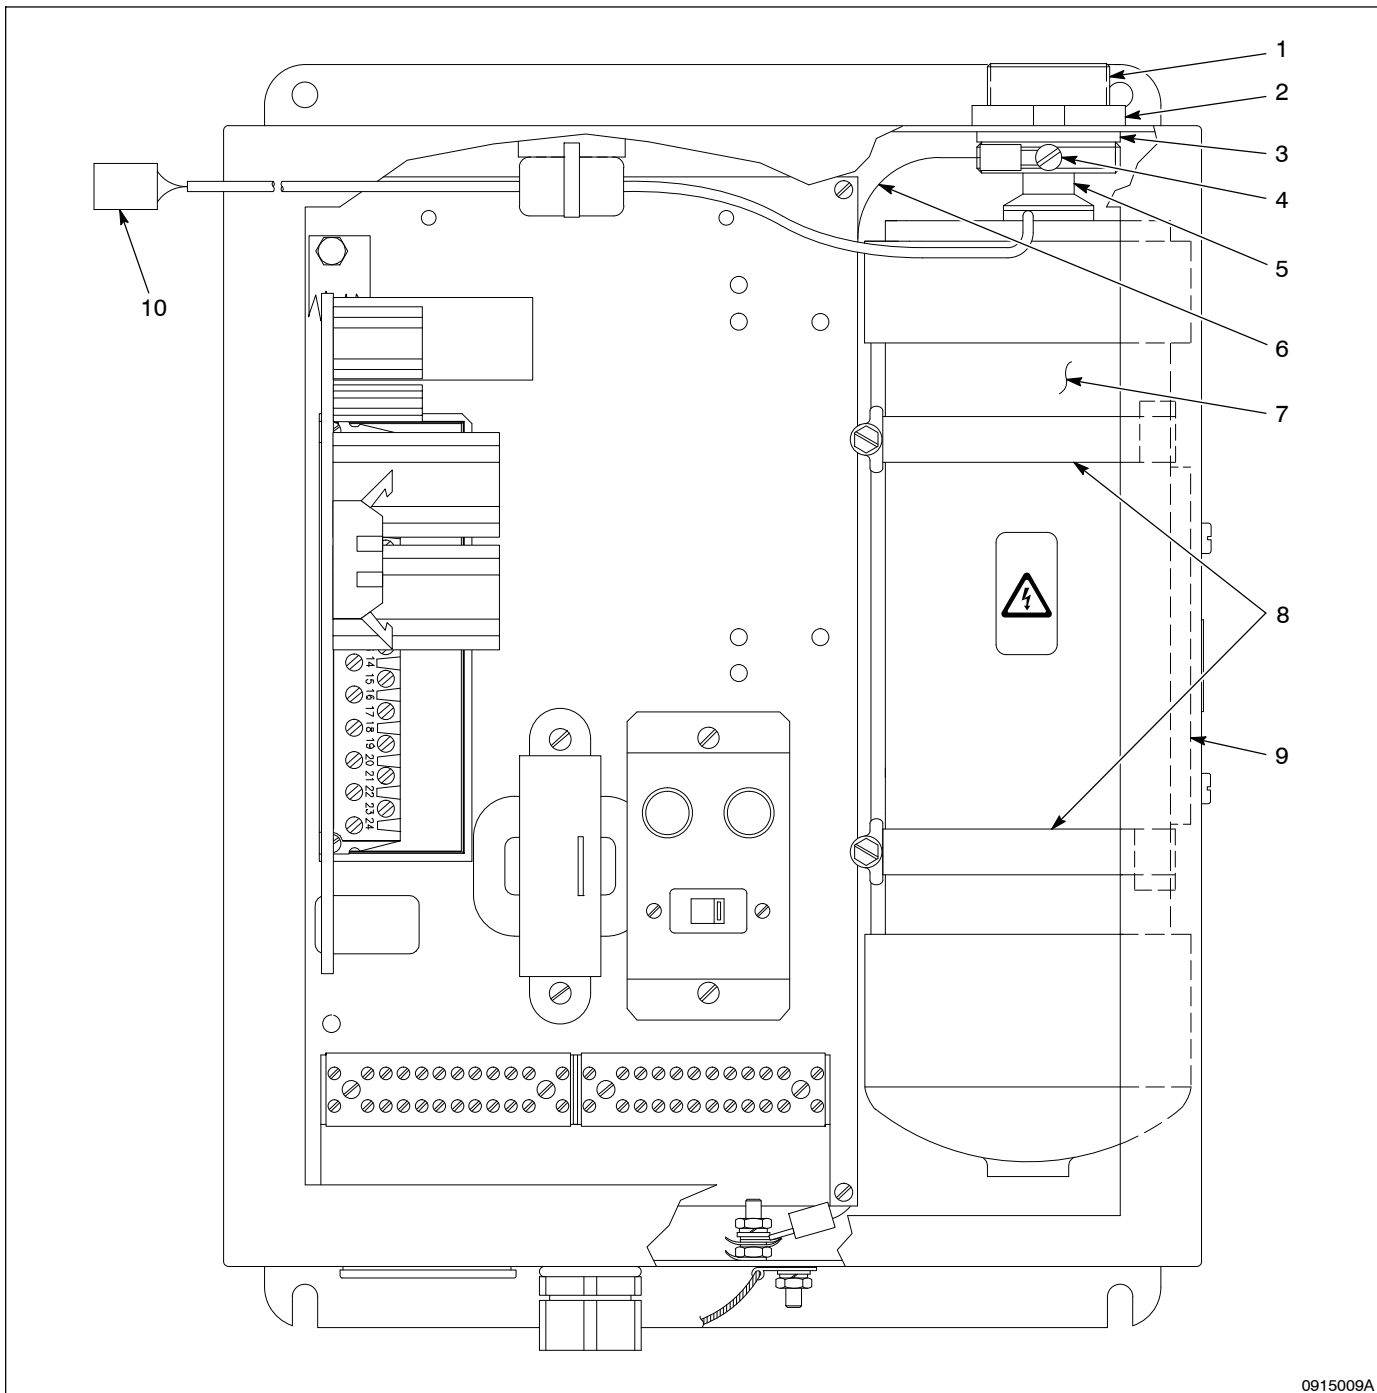
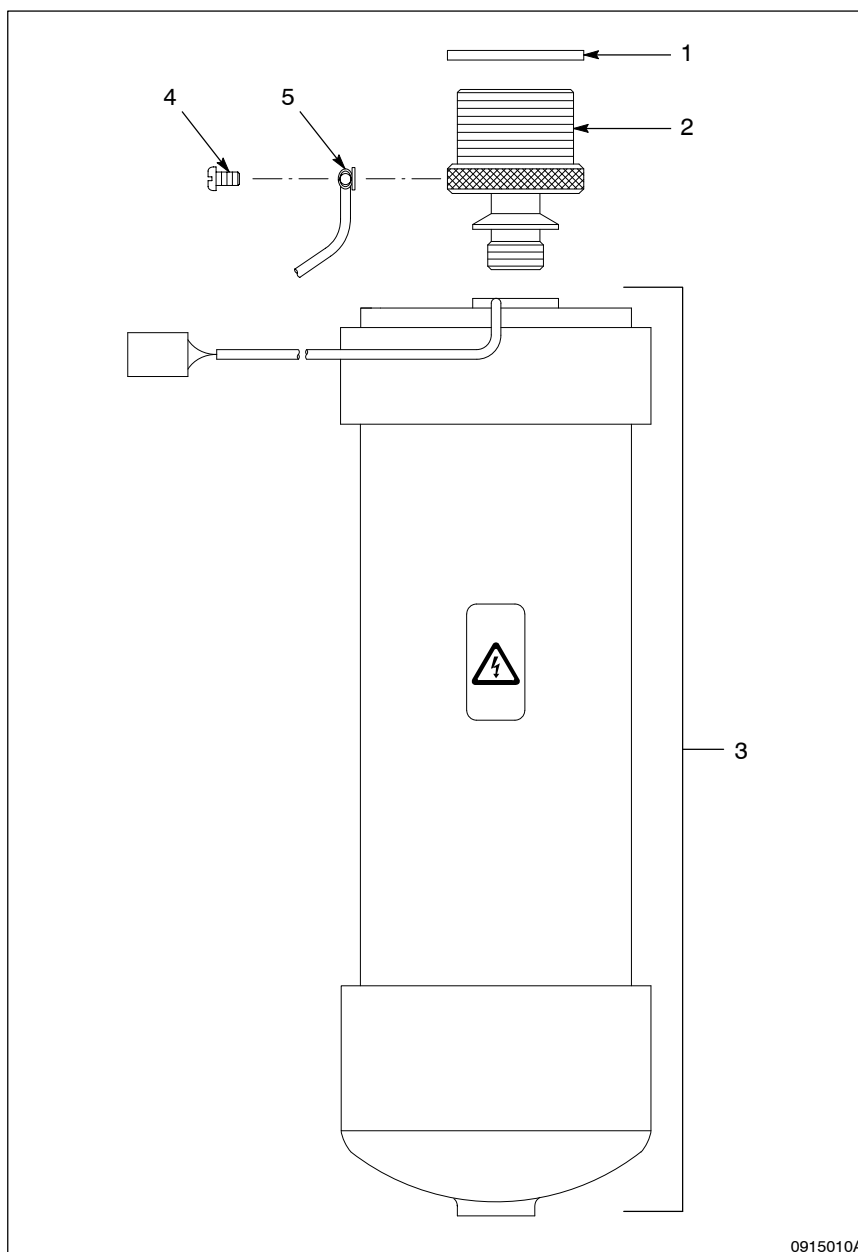

Fig. 9 Multiplier Assembly Removal
Fig. 10 Multiplier Assembly Installation
3. See Figure 9. Remove the two clamps (8) that attach the multiplier assembly (7) to the multiplier bracket (9).
4. Support the bottom of the multiplier assembly with your hand while removing the locknut (2).
6. See Figure 10. Remove the gasket (1) from the top of the multiplier assembly (3). Set the gasket aside.
7. See Figure 9. Remove the screw (4) that retains the ground wire (6) to the multiplier.
See Figure 10. Perform the following steps to install the multiplier assembly into the power supply:
1. Remove the cable adapter (2) from the multiplier assembly (3), and then install the adapter on the new multiplier.
2. Tighten the cable adapter (2) to 4 N•m (3 ft-lb).
3. Use the screw (4) to connect the ground wire (5) to the cable adapter (2) at the top of the multiplier assembly (3).
4. Install the gasket (1) over the end of the cable adapter (2) on the new multiplier assembly (3).
5. See Figure 9. Place the multiplier assembly (7) in the cabinet, and then install the locknut (2) on the cable adapter (1).
6. Position the multiplier firmly against the top of the cabinet, and then tighten the locknut (2) to 4 N•m (3 ft lb).
7. Install and tighten the clamps (8) to attach the multiplier assembly (7) to the multiplier bracket (9).
9. See Figure 9. Cut the tip from the vial of high-voltage dielectric oil, and then pour the oil into the high-voltage well (5) of the multiplier.